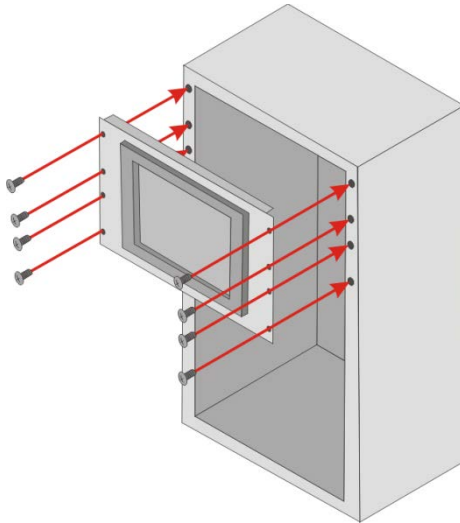

Figure 3-22: Install into a Rack/Cabinet
Step 6: Slide the flat bezel panel PC with the attached rack/cabinet bracket into a rack or cabinet (**Figure 3-22**).
Step 7: Once the flat bezel panel PC with the attached rack/cabinet bracket has been properly inserted into the rack or cabinet, secure the front of the rack/cabinet bracket to the front of the rack or cabinet (**Figure 3-22**).